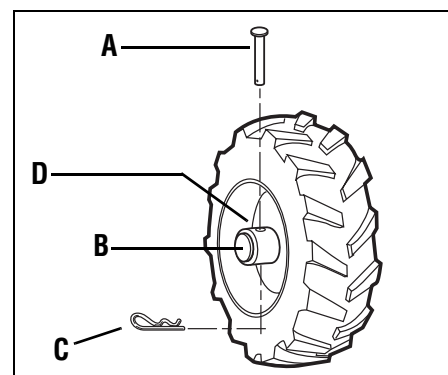

Figure 3-2: WHEEL DRIVE position.
Each wheel is equipped with a wheel drive Klik pin (A, Figures 3-2 and 3-3) that secures the wheel to the wheel shaft (B). The wheels can be positioned in either a WHEEL DRIVE or a FREEWHEEL mode.
3. Remove Clevis Pin and cotter pin (A, Figures 3-2 and 3-3) from wheel drive shaft (B).
4. **FOR WHEEL DRIVE MODE** (Figure 3-2): Slide wheel outward and align holes in wheel hub (D, Figure 3-2) and wheel shaft (B). Insert Clevis pin (A) through wheel hub (D) and wheel shaft (B) and secure with Cotter Pin (C). Repeat with the other wheel and then remove the support from beneath the transmission.